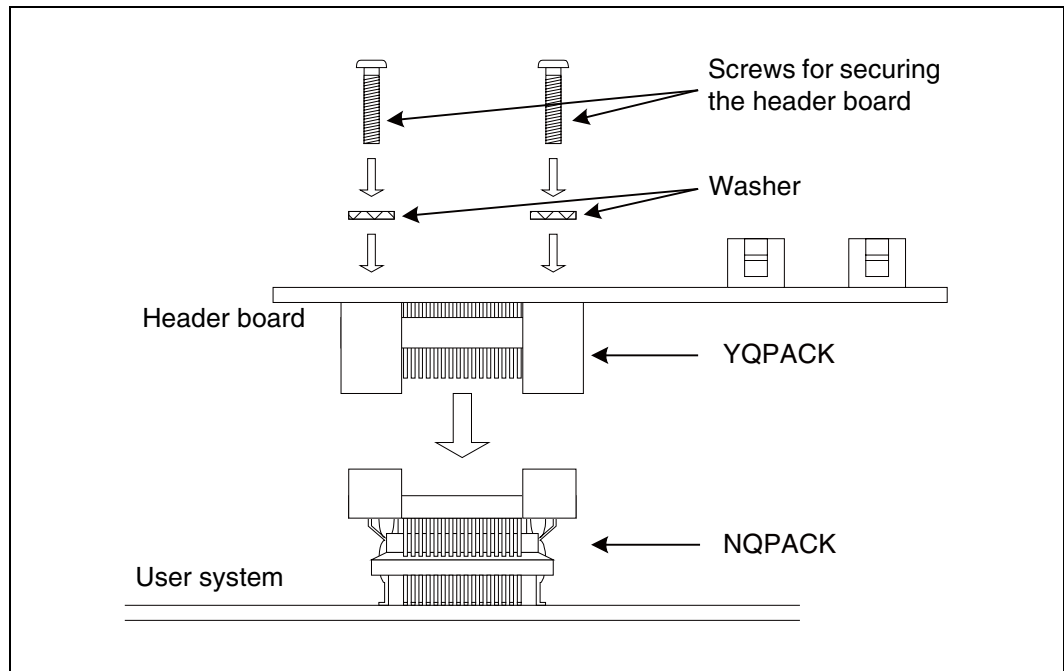

Figure 4 Header board connection
2. Insert each of the screws for securing the header board through a washer and into each of the four holes in the header board. To tighten the screws, use the screwdriver supplied with the NQPACK to evenly tighten the diagonally opposite screws in turn (see Figure 4).